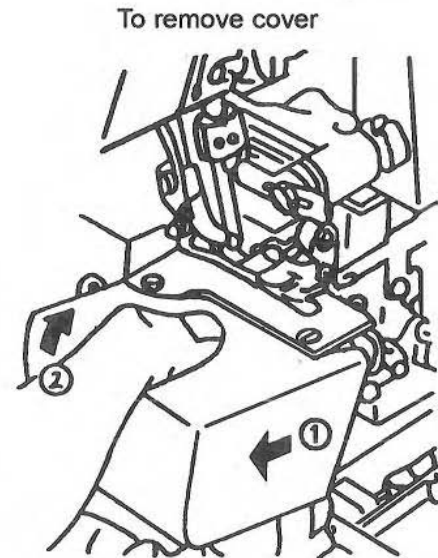

Figure 6
7. How to remove convertible bed and cylinder cover. Figure 6